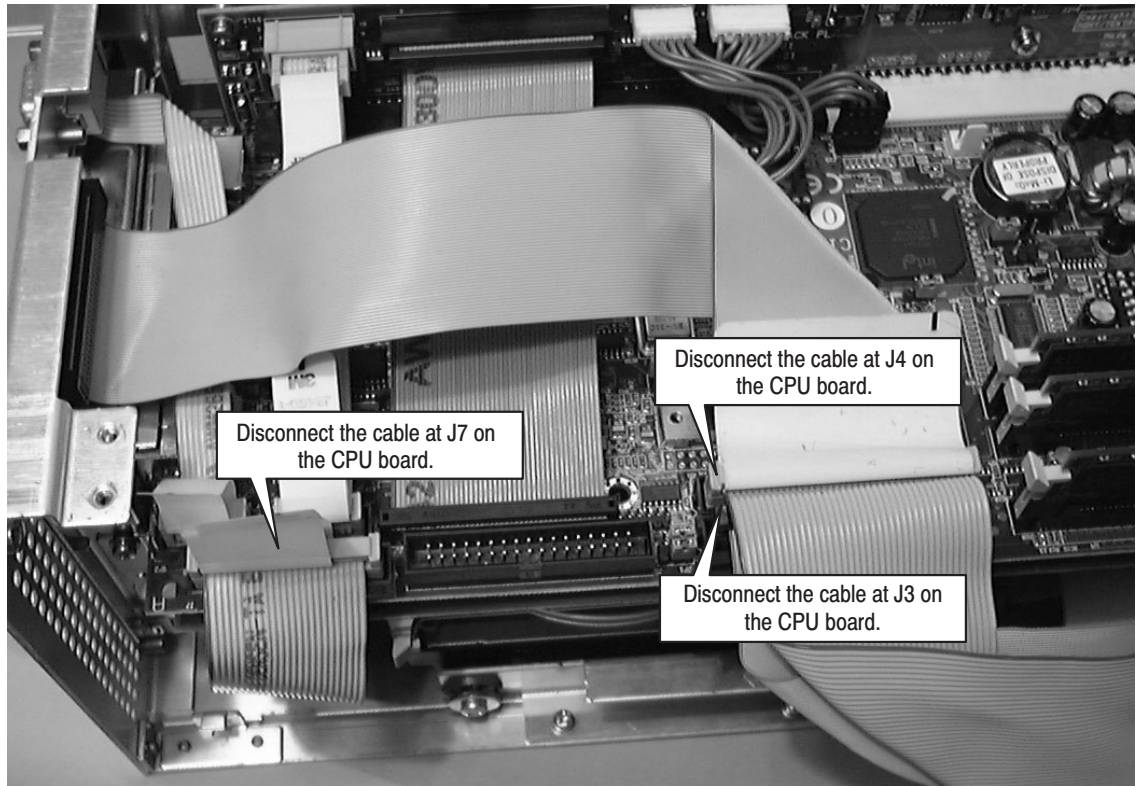

Figure 3: Disconnecting the cables at J3, J4, and J7 on the CPU board
1. Disconnect the cables at J3, J4, and J7 on the CPU board. See Figure 3.